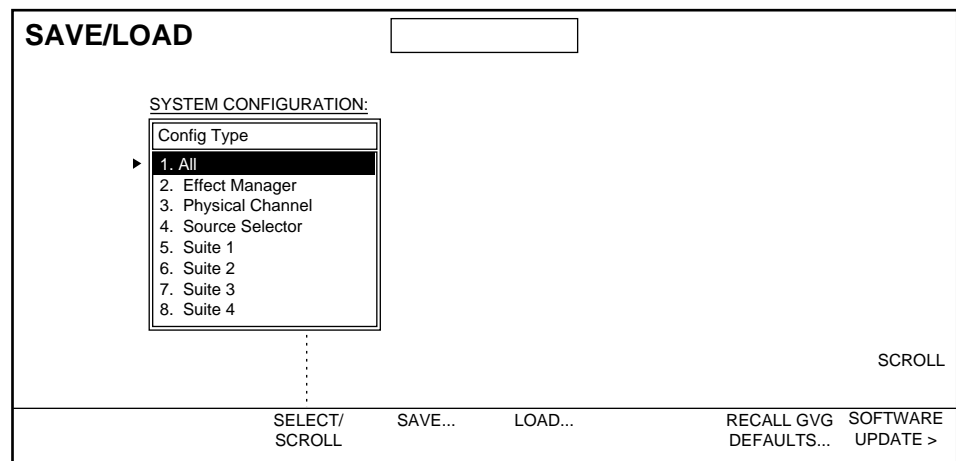

Figure 3-27. System Configuration Save/Load Menu
1. From the System Configuration menu, press SAVE/LOAD to go to the System Configuration Save/Load menu (Figure 3-27).